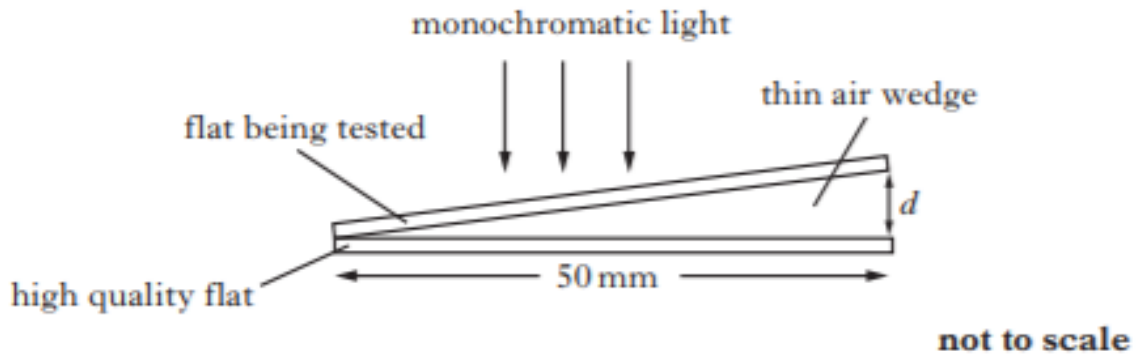

Figure 8A
- (a) During the manufacture of an optical flat, the quality of the surface is tested by placing it on top of a high quality flat. This results in a thin air wedge between the flats as shown in Figure 8A.